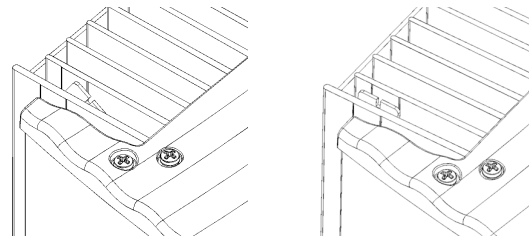

Figure 6.2: **Safety catch** open (left) and closed (right)
- Lock the safety catch. To do this, slide the upper end of the safety catch towards the wall until the groove runs parallel to the wall (see figure 6.2).